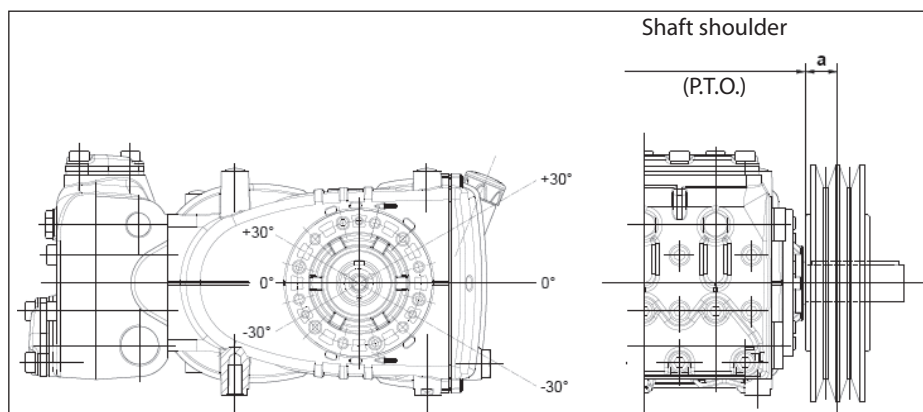

Fig. 10
The radial load on the shaft must not exceed 3000 N (value necessary for Layout definition). The transmission is considered adequate if the load is applied to a maximum distance $a=30$ mm from the shaft shoulder (P.T.O) as shown in Fig. 10.
- b) Use high performance belts – for example **XPB** instead of **SPB** – as a lower quantity of belts for the same transmitted power may be necessary and a consequent shorter resulting distance compared to the shaft shoulder (P.T.O.) “a” of Fig. 10.
- e) Follow the direction of the belt pull as shown in Fig. 10 for other needs, contact our **Technical** or **Customer Service Departments**.